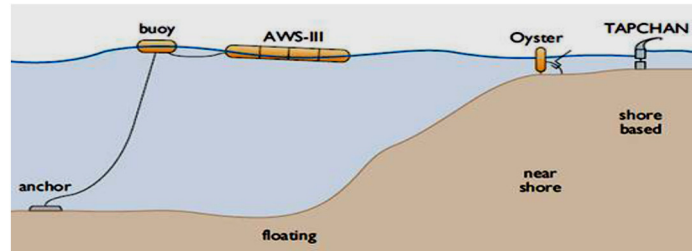

Fig. 6 Classification of wave energy converters according to location
3. Classified by device location (Fig. 6):